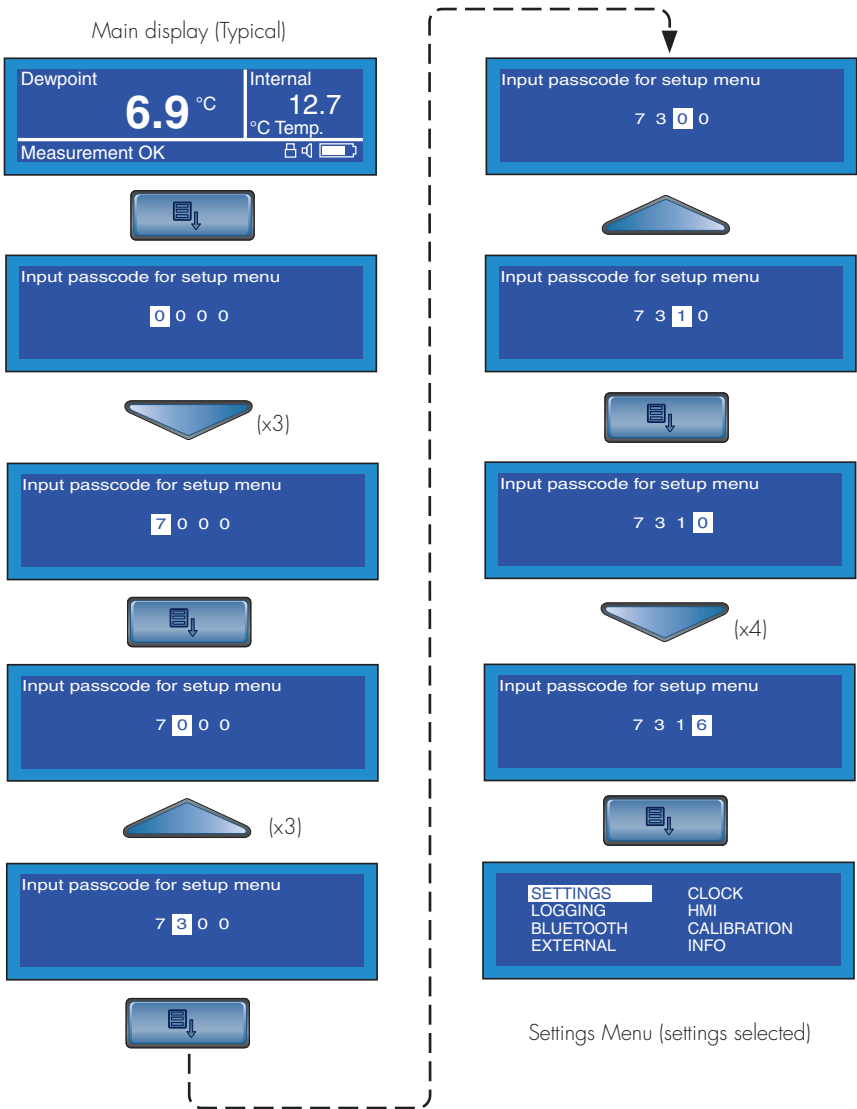

Figure 2.6 - Passcode entry
Figure 2.6 shows the entry sequence. This flowchart and all other flowcharts in this handbook should be read from top to bottom, left to right.
Repeat this procedure, following Figure 2.6, until all the passcode digits have been entered. On successful entry of the last digit (6), the top level Settings menu is displayed.
To prevent unauthorized modification of the instrument's calibration tables, entry to the calibration menu is protected by an additional passcode PIN. The method of entry is the same as that described in Section 2.5 (see also Figure 2.6), except that a Cal PIN replaces the Settings PIN (refer to Section 7)